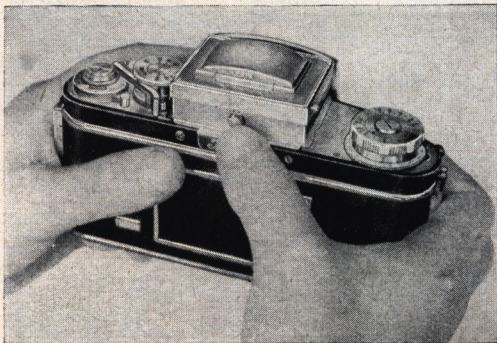

Fig. 7
Press knob (16) and the finder-hood (11) opens automatically (Fig. 7). For a detailed description of its use and the various possibilities for observing the image see chapter E (page 18). We mention here its most important features only: The ground glass image is strictly identical with the future photograph. Therefore the ground glass image is the decisive factor in successful picture taking: composition, framing, critical focusing, lens aperture, even the degree of brightness of the ground glass image permits to determine the exposure time fairly accurately. — If there is no image visible in the finder-hood, the filmtransport lever (6) is to be wound once, clockwise, as far as it will go (Fig. 8). Don't let recoil the lever, but retard the retrograde movement with your left thumb.